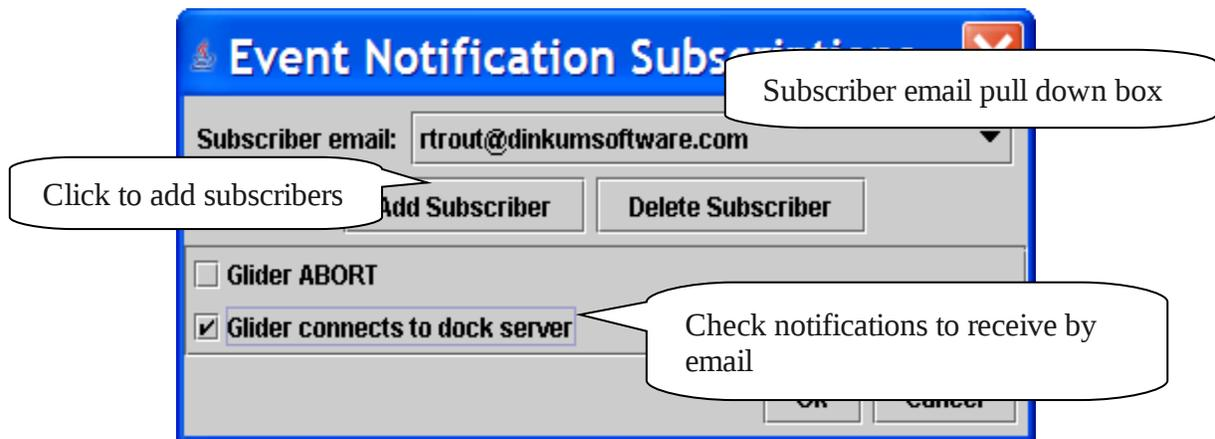

Figure 4-8. Event Notification Subscriptions Dialog.
2. From the subscriber email pull down box in the Event Notifications Subscriptions dialog, select the Subscriber email to receive glider event notifications (Figure 4-8).